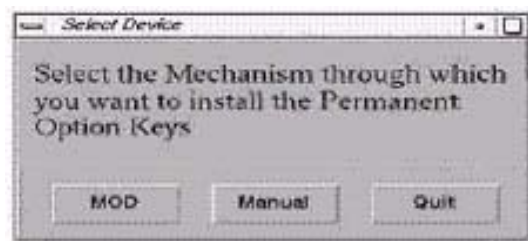

Figure 3-14 Select Device window
- 7.) Click PERMANENT. A Select Device (Figure 3-14) window opens. Select the mechanism through which you want to install the Permanent Option Keys.
Note: The Select Device illustration in Figure 3-14 is outdated — the new window displays selections for MEDIA, Manual, and Quit. Screen requires an update.